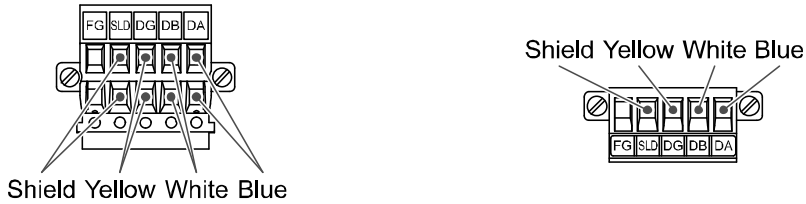

Figure 1
(1)Connect the signal lines to the assigned pins. (Figure 1)